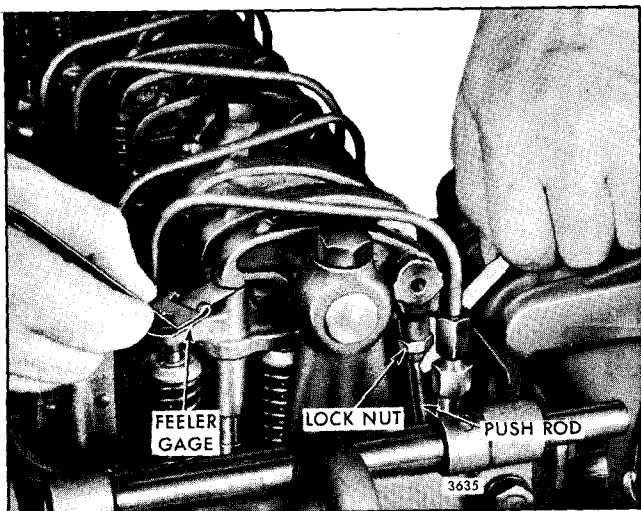

Fig. 3 - Adjusting Valve Clearance
5. Place a .016"  $\pm$ .004" feeler gage (J 9708-01) between the valve bridge and the valve rocker arm pallet (Fig. 3). Adjust the push rod to obtain a smooth "pull" on the feeler gage.